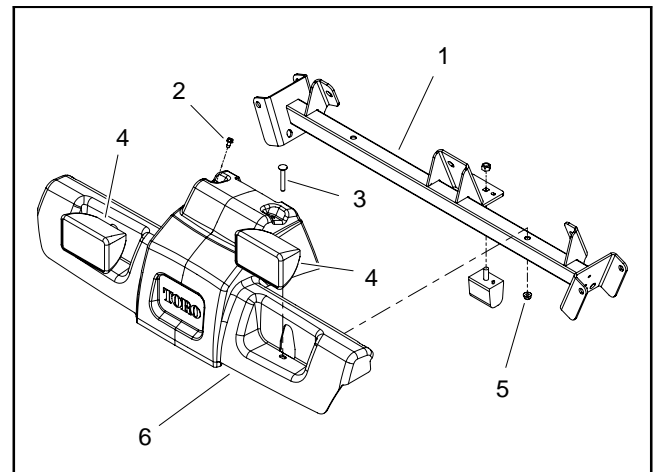
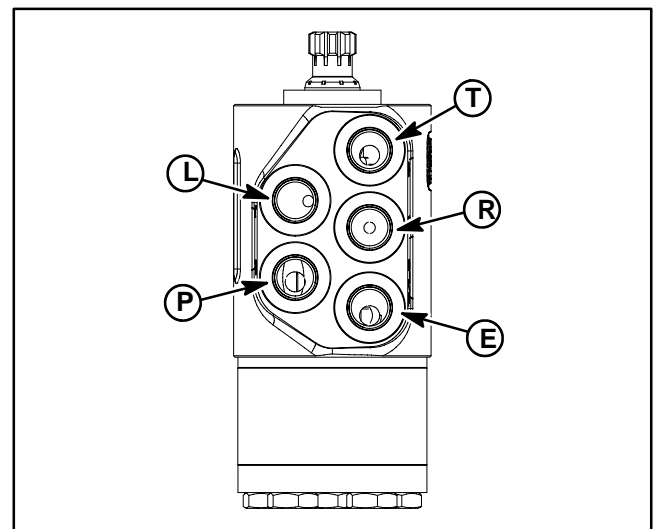

Figure 86
Figure 87
2. Remove fasteners that secure shroud to front of machine (Fig. 86). Remove shroud from machine to allow access to steering control valve.
3. Remove four (4) flange head screws that secure column brace (item 12) to frame platform. Remove brace from machine to allow access to steering column fasteners.
7. Label all hydraulic connections for assembly purposes. Note port designations on steering control valve (Fig. 87).
3. Slide steering control valve shaft into steering column universal joint. Position control valve with ports toward front of machine. Secure steering control valve to steering column with four (4) socket head screws. Torque screws in a criss-cross pattern from **7 to 10 ft-lb (9.5 to 13.5 N-m)**.
4. Position steering column assembly to machine. Secure steering column in place with four (4) socket head screws and flange nuts.
7. Position steering column brace (item 12) to machine and secure with four (4) flange head screws.
9. Position shroud in place and secure with removed fasteners (Fig. 86).